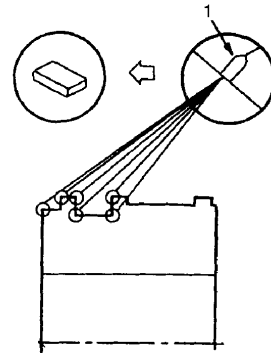

Figure 25
10. On piston, check corners of grooves that piston rings will be mounted in. See Figure 25. If any burrs, roughness, or sharp edges (1) are present, use an oil stone to smooth roughened areas and dull sharp edges.